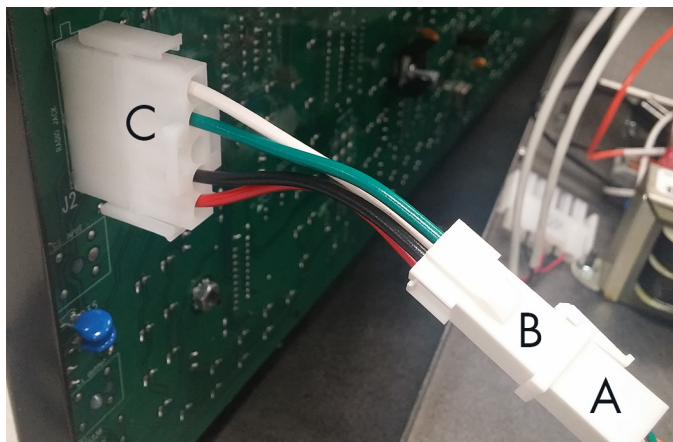

Figure 7: Radio Connection
7. Connect the 5-pin end of the radio adapter cable (**C**) into the **J2 RADIO JACK**. Refer to **Figure 7**.